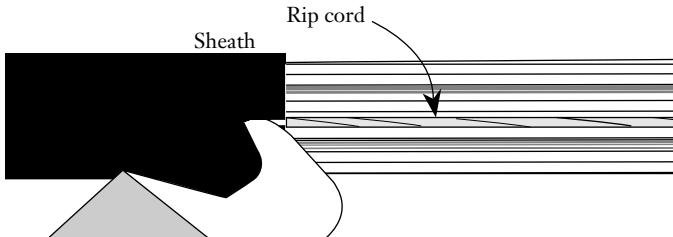

Figure 19
**6.8** Locate and separate the rip cords from the yarn surrounding the cable core. Using the hook blade, cut starting notches in the outer cable sheath (Figure 19).